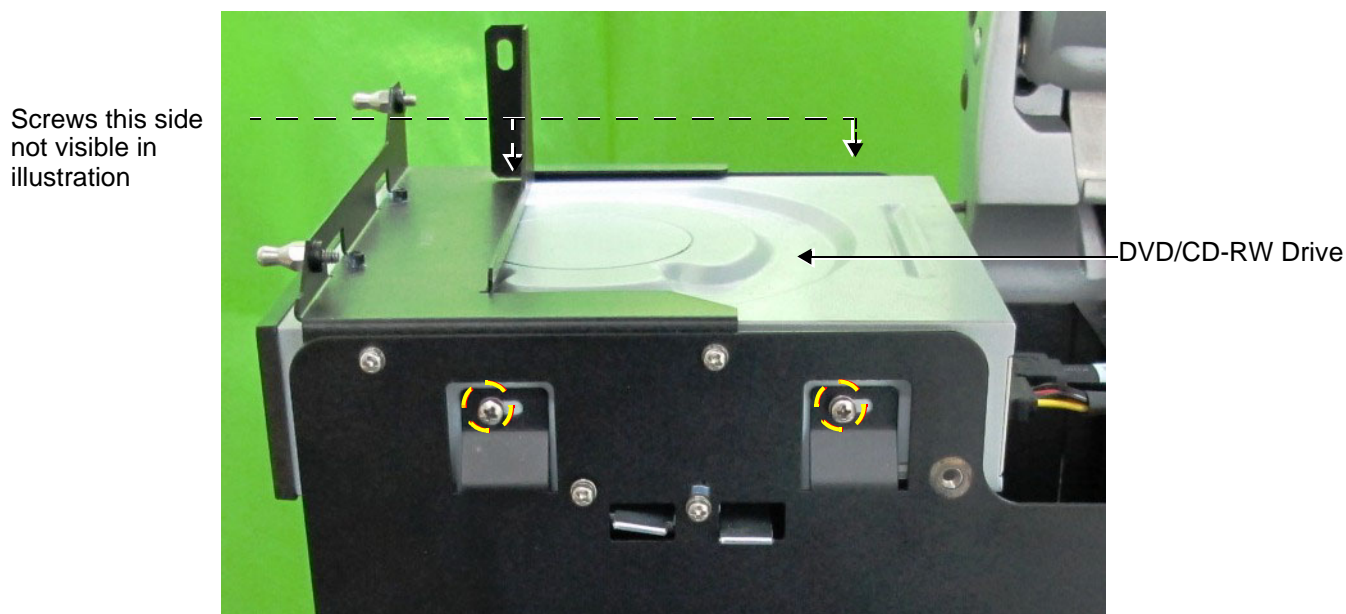

Figure 8-152 Screws Securing DVD/CD-RW Drive in Position
- 2.) Loosen and remove the two Phillips screws on either side of the securing panel (that holds the DVD /CD-RW Drive in position), as indicated in Figure 8-152.
- 3.) Disconnect the SATA DVD cable and the SATA DVD power cable from the rear of the DVD /CD-RW Drive, as indicated in Figure 8-152.